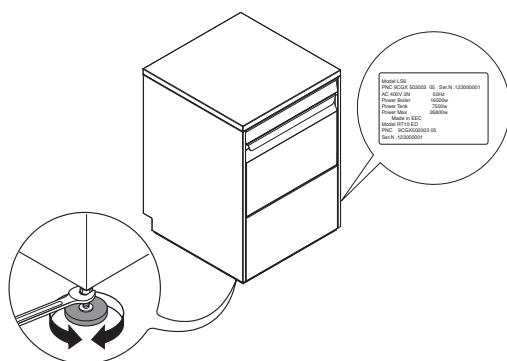

Figure 5
The rating plate contains identification and technical data and is located on the right-hand side panel of the appliance (Figure 5).
- Position the dishwasher and level the appliance by turning the relative height-adjustable feet (Figure 5).